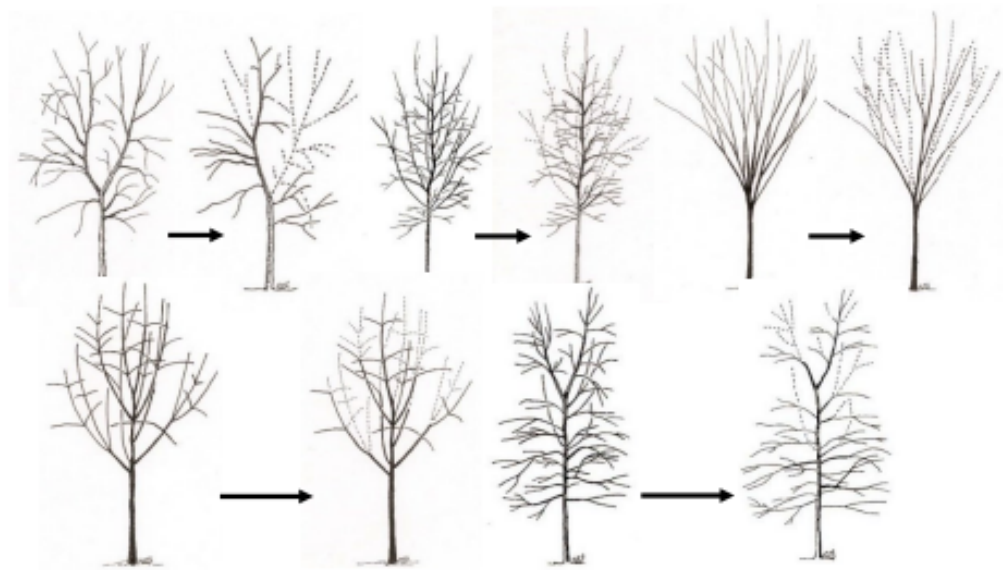

Figure 20. Before and after pruning at planting
4. Reduce vigorous upright stems back to lateral branches or remove entirely (Figure 20).